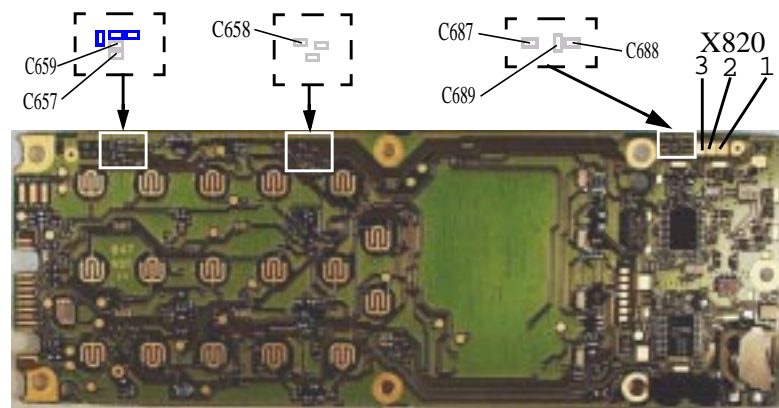

Fig 8.1
Open the phone and check for liquid damages, especially around X820 (Fig 8.1). Change the flex film for the volume buttons, put the phone together and try again.
1. If the resistances are too low replace as follow; X820:1 replace C659 and C689; X820:2 replace C658 and C688; X820:3 replace C657 and C687. (all capacitors are class A, Fig 8.1). If the fault remains, replace D600 (class B, Fig 8.2).